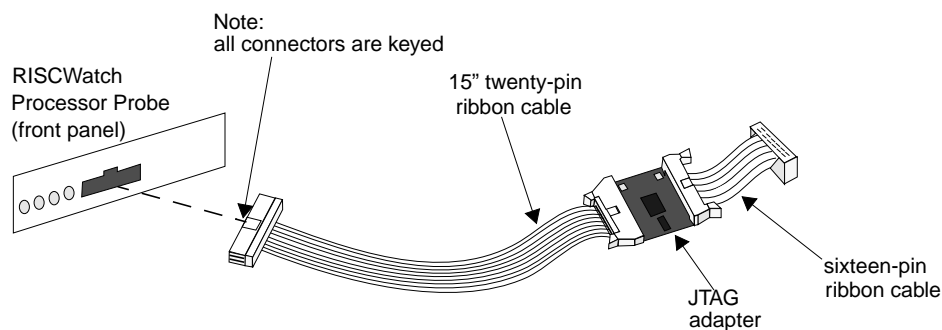

Figure 4-1. Typical JTAG Adapter Assembly
4. If your JTAG adapter assembly looks like the one shown in Figure 4-1, you have what we refer to as a "typical JTAG adapter assembly". To assemble the adapter and cables, perform the following steps: